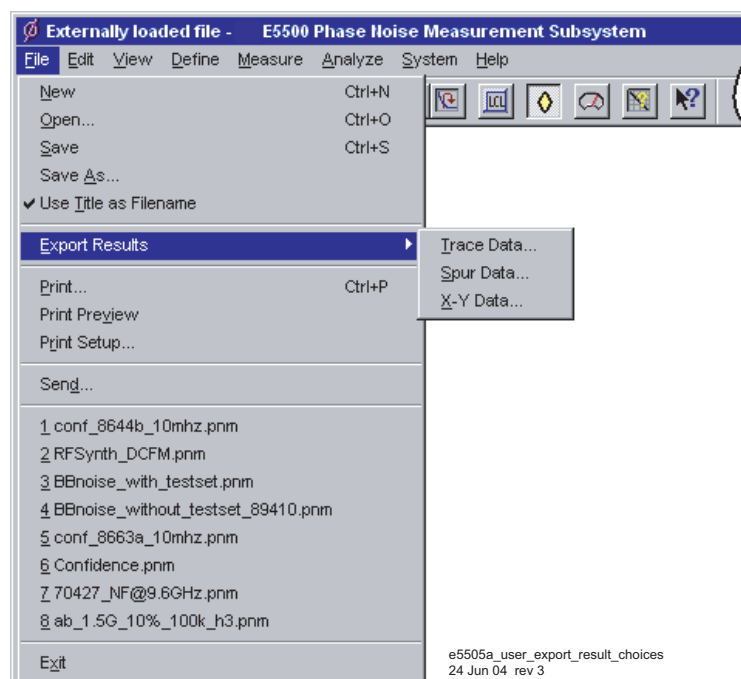

Figure 67 Export results choices
- 1 To export measurement results, on the **File** menu, point to **Export Results**, then click on either **Trace Data**, **Spur Data**, or **X-Y Data**. See Figure 67.